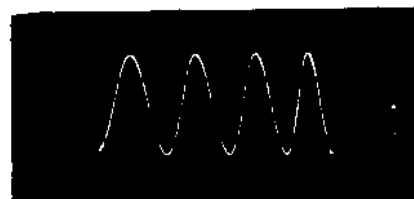

Figure 30
- () Set the SYNC. SELECTOR switch to the +INT. position, the HOR. GAIN control to 30, the VERT. INPUT switch to X10 and the VERT. GAIN control to 100. Now set the HOR./FREQ. SELECTOR to the line between 10 and 100 and adjust the FREQ. VERNIER to obtain a pattern consisting of four complete sine waves similar to that shown in Figure 30. This check indicates that the sweep generator is operating normally at a frequency of 60/4 or 15 cycles per second. See NOTES ON THE OPERATION OF THE OSCILLOSCOPE for operation of the SYNC. AMPLITUDE control. Reduce the HOR. GAIN setting if necessary.